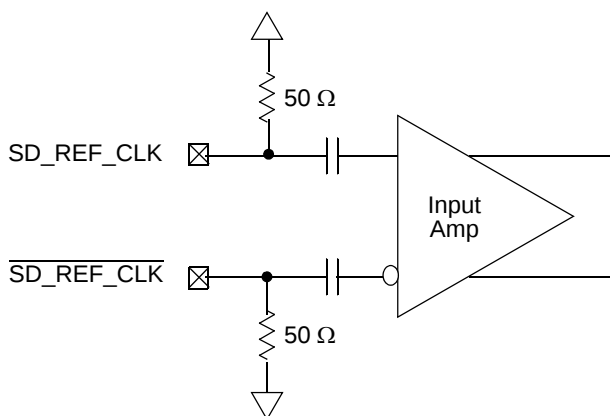

Figure 39. Receiver of SerDes Reference Clocks
Figure 39 shows a receiver reference diagram of the SerDes reference clocks.
- The SD_REF_CLK and $\overline{\text{SD_REF_CLK}}$ are internally AC-coupled differential inputs as shown in Figure 39. Each differential clock input (SD_REF_CLK or $\overline{\text{SD_REF_CLK}}$) has a 50-Ω termination to XCOREVSS followed by on-chip AC-coupling.